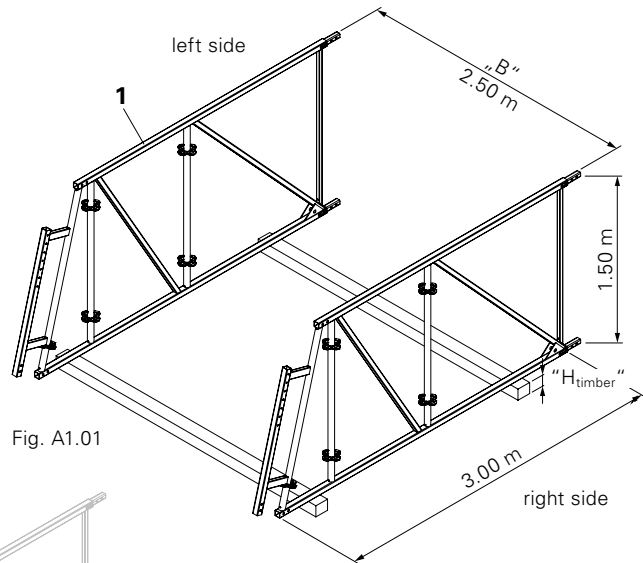

Fig. A1.01
(Fig. A1.01)
1. Place Eave Element (1) on two crosswise positioned timbers.
- Timbers are used as support during assembly. (Fig. A1.01)